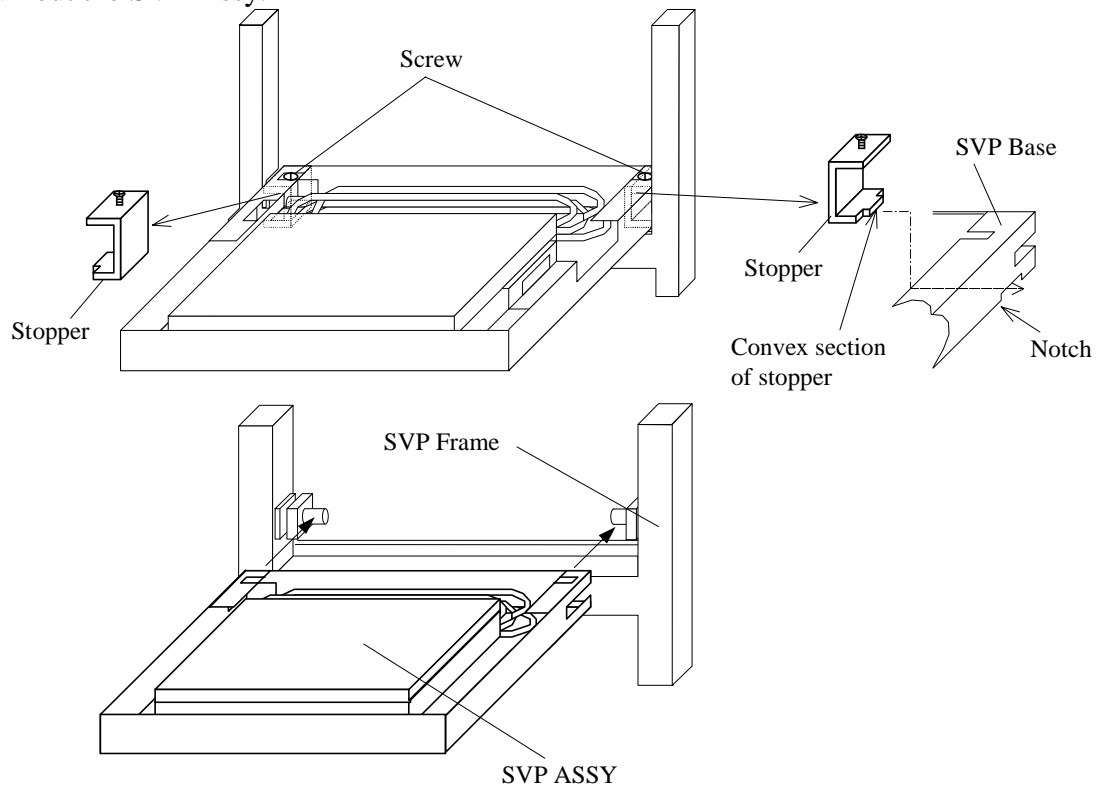

Fig. 3.15-11 Removing and installing the SVP ASSY
- a. Install the SVP to the SVP ASSY and attach the SVP stoppers with screws. (See Fig. 3.15-11.)